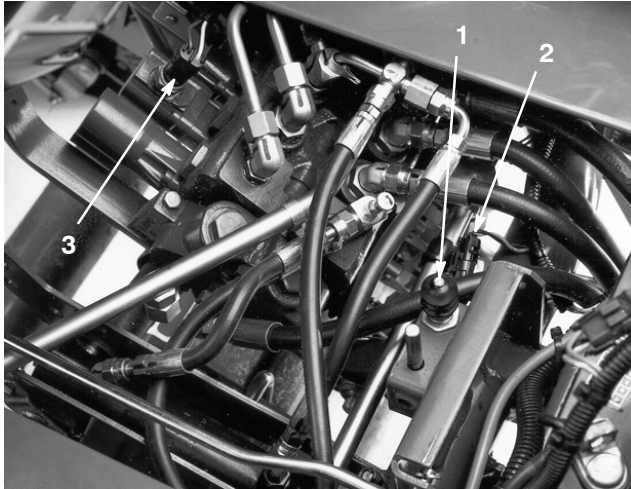

Figure 48
2. Remove the boot from the button end of the seat switch (Fig. 48) and retain it for installation on the replacement switch. Unplug the switch connectors.
2. Unplug the switch connectors from the traction switch installed in the valve bank bonnet on the selector valve section (Fig. 48).
2. Unplug the switch connectors from the end of the mow/lift switch installed in the valve bank bonnet (Fig. 48).